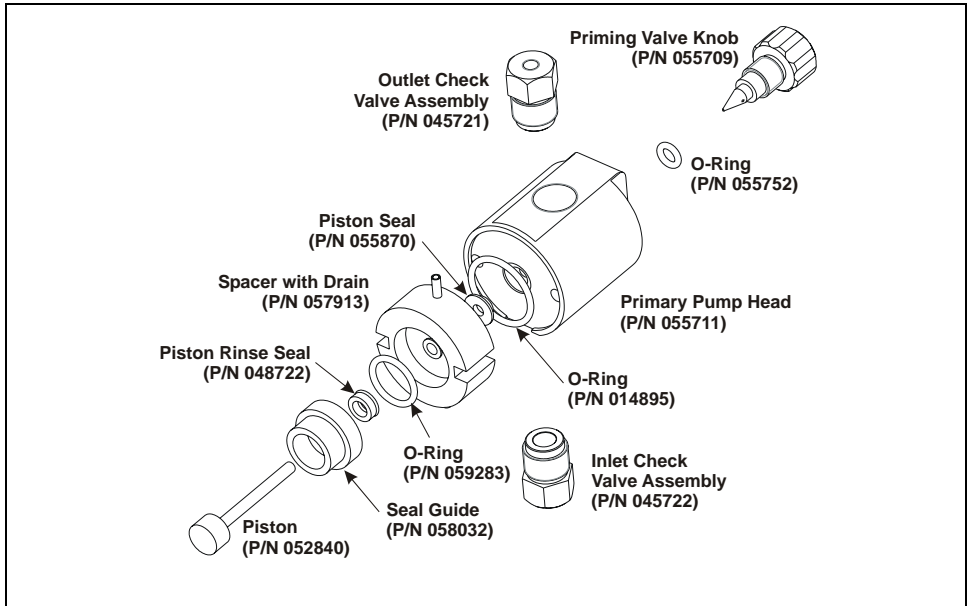

Figure 5-12. Primary Pump Head
- Place the head (front end down) on a clean work surface and lift off the spacer to expose the piston seal (see Figure 5-12 or Figure 5-13).